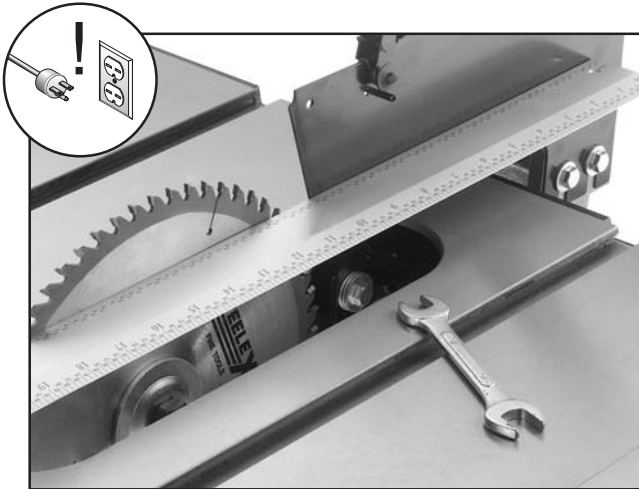

Figure 30. Guard in line with blade.
3. Next, set a straightedge against the face of the saw blade and the blade splitter as shown in **Figure 30**.